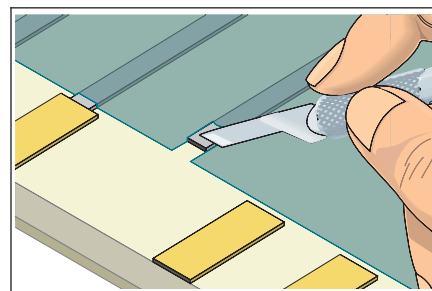

Figure 1 Remove the defective edge contact and solder resist.
4. Scrape off any solder resist or coating from the connecting conductor. (See Figure 1.)